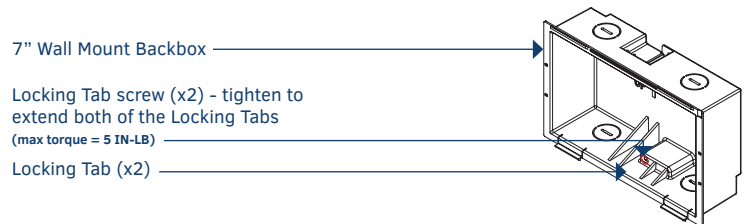

FIG. 3 7" BACKBOX - LOCKING TAB AND LOCKING TAB SCREW (X2)
5. Extend the Locking Tabs by tightening the Locking Tab screws until snug (FIG. 3):